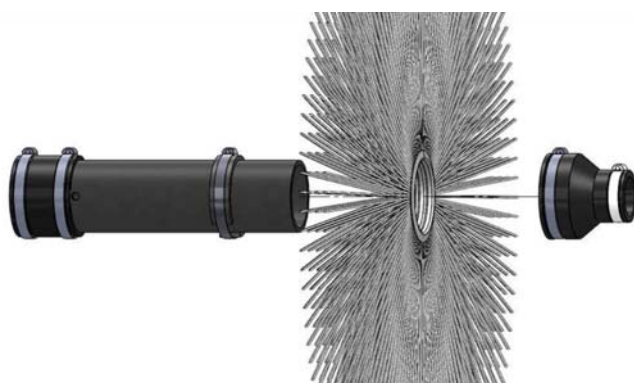

Figure 12: Assembling the brushes and rubber coupler onto the tail section.
2. Slide the drag brush(es) onto the detached tail section and attach the rubber reducer coupler over the end of the tail (Figure 12). Ensure that the brushes are adjacent to the plastic stop on the tail. If necessary, you can adjust the location of the plastic stop by loosening the stop's hose clamp and sliding the stop along the tail. Remember to retighten the hose clamp on the stop ring and the rubber coupler.